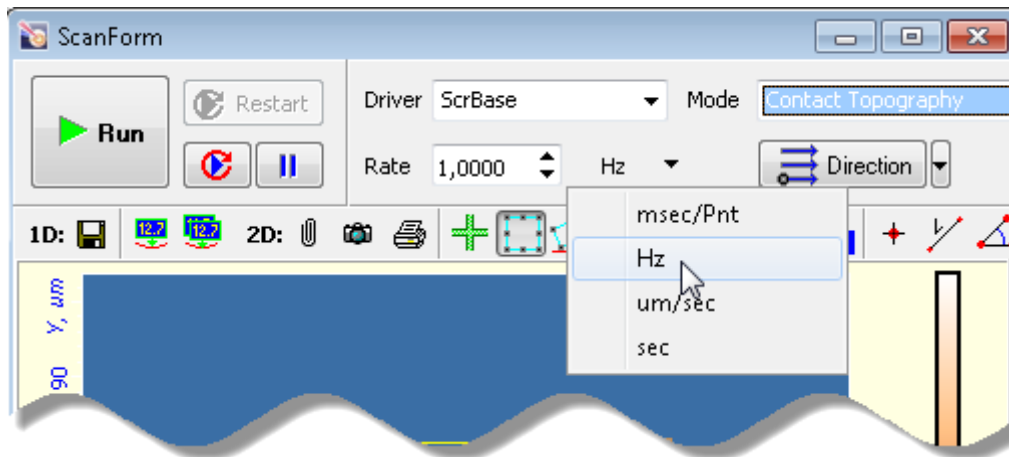

Fig. 8-18. Control panel of Scanning window
1. In the Control panel of the **ScanForm** window, select unit of scan rate measurement (Fig. 8-18). For example, the **Hz** item is associated with the line scan frequency in Hz.